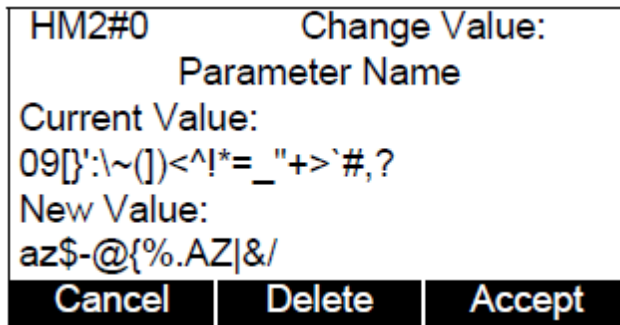

Figure 4-9: Typical Screen for Changing Alphanumeric Parameters
- For alphanumeric parameters, a screen similar to the one shown in Figure 4-9 is displayed. This screen indicates the following information: